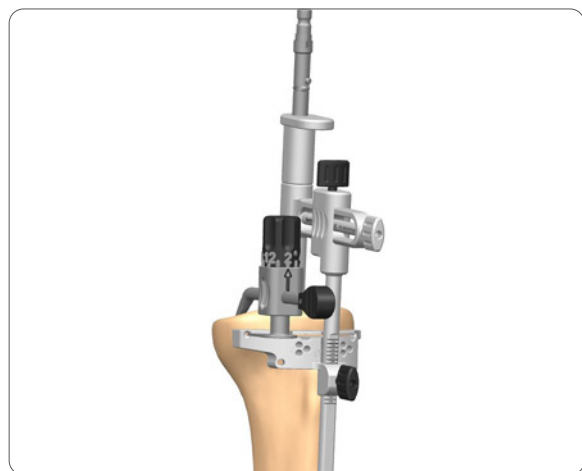

Figure 107
5. Insert Adjustable Footed Tibia Stylus into the saw slot of the Cutting Guide (**Figure 107**).